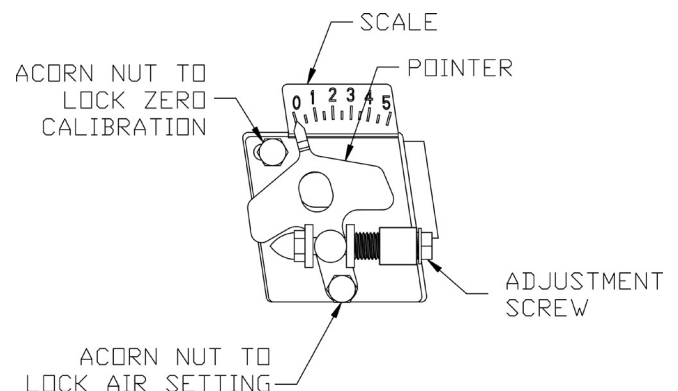

Figure 8-5: Head/Air Adjustment Plate Assembly
- m. Loosening the splined nut and lower acorn nut, and, turning the adjustment screw, either forward or, rearwards, will adjust the head/air plate. **DO NOT LOOSEN UPPER LEFT ACORN NUT**, which locks zero head/air setting. See Figure 8-5.
- a. Move the Head/Air Setting forward or back one position at a time to optimize the smoke and CO₂ readings. See Figure 8-5.